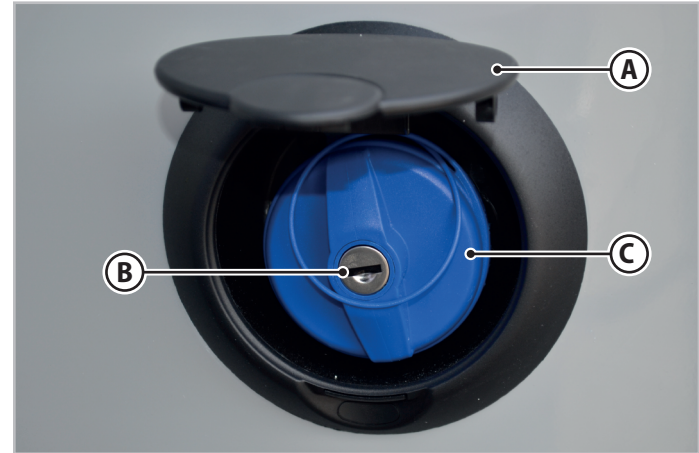

Fig.6.36 - Refilling the white water tank
1. Lift the flap (A - Fig.6.36) to access the water filler cap on the side of the vehicle.
2. Insert the key into the lock (B - Fig.6.36).
4. Turn the cap (C - Fig.6.36) anticlockwise and remove it.